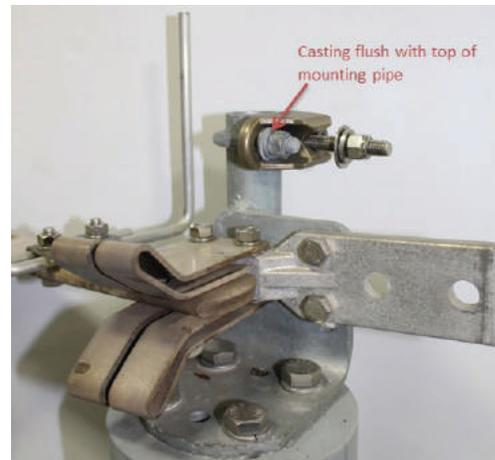

Figure 18. Attach the new clamp
**Note:** The casting must be located flush with the top of the pipe. See Figure 18.